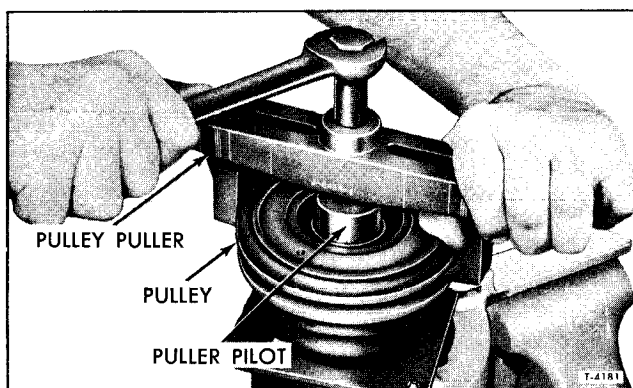

Figure 40—Removing Pulley
4. Place puller pilot (J-9395) over the compressor shaft and pull off the pulley assembly using (J-8433) pulley puller (figure 40).